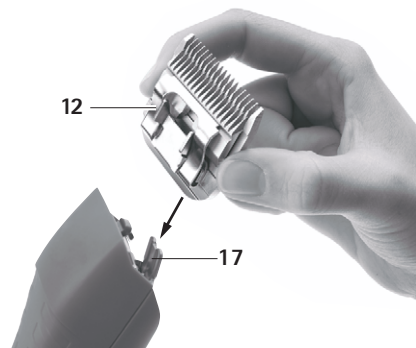

Fig. 2
- Install shearing head 12 on opened knife hinge 17, see Fig. 2.
- Press shearing head 12 slightly in the direction of the DURATI shearing machine, see Fig. 2. The shearing head 12 engages audibly.